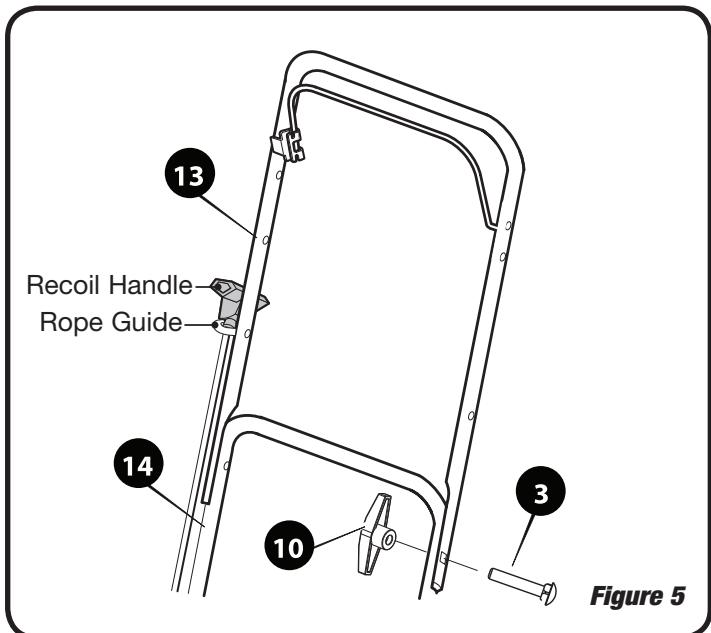

Figure 5
1. Place the upper handle (item 13) in position over the lower handle (item 14). See Figure 5.
2. Insert the round head, square neck bolts (item 3) through the holes in each side of the upper and lower handles, and secure with the large wing nuts (item 10).
3. Pull the recoil starter and thread the rope through the rope guide, as shown in Figure 5.
3. Insert the opposite side (left) end of the blade control lever into the hole in the upper handle. See Figure 5.